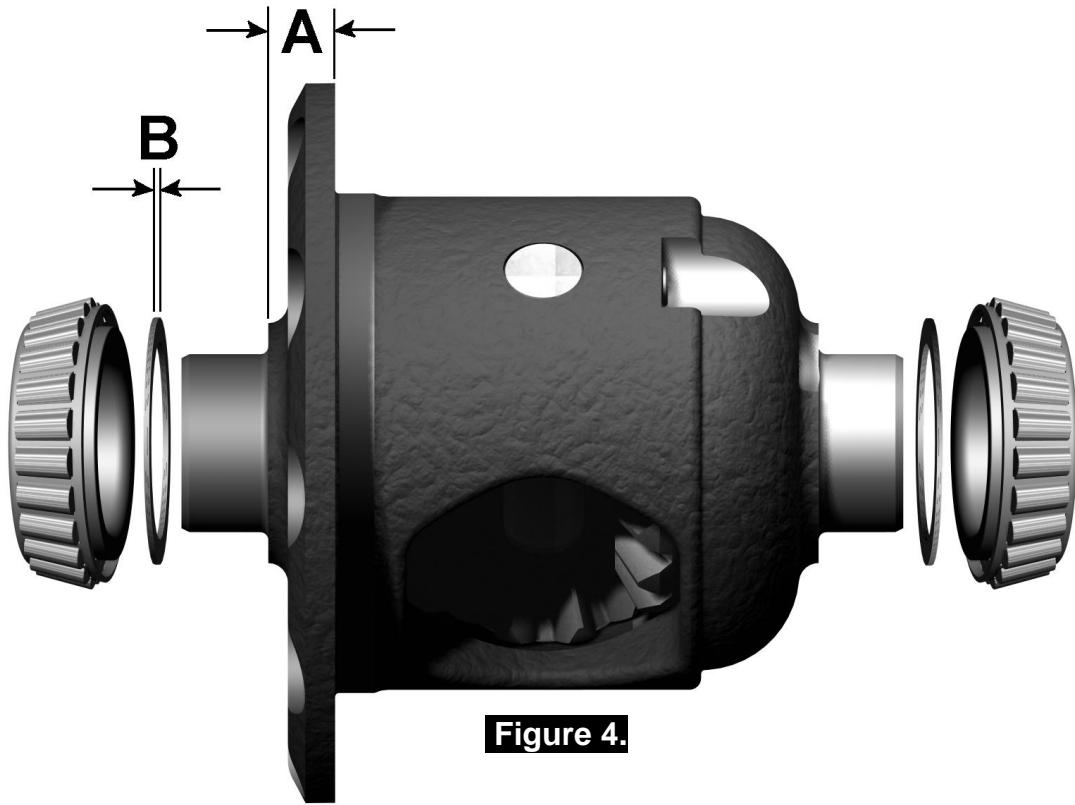

Figure 4.
- Using a caliper or similarly accurate measurement method (i.e., able to take accurate measurements within 0.04mm [0.0015"]), measure the distance from the bearing shoulder to the ring gear mounting face (shown as 'A' in Figure 4.) and record this measurement as 'A'.
- Measure the thickness of the shim pack removed from the ring gear side of the differential carrier (shown as 'B' in Figure 4.) and record this measurement as 'B'.
- To increase the amount of backlash, reduce the shim thickness 'D' (Fig. 4.) and increase the shim thickness 'E' (Fig.8.) by the same amount. Reverse this step to decrease the backlash.